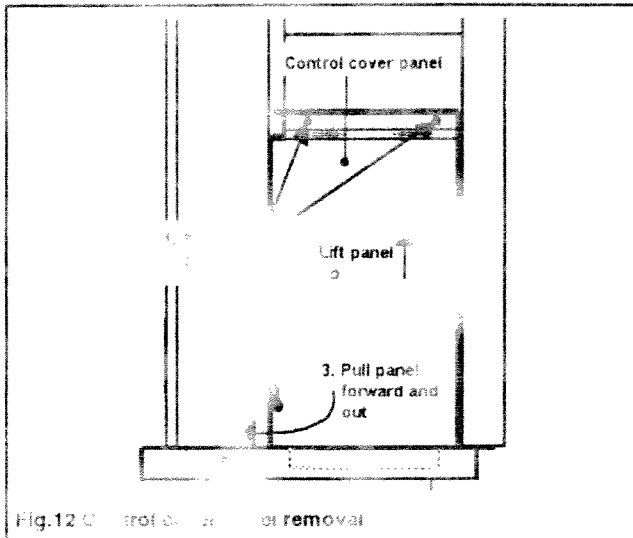

Fig.12 Control cover panel removal
- 11.3 Detach the control cover panel (see figure 12):-